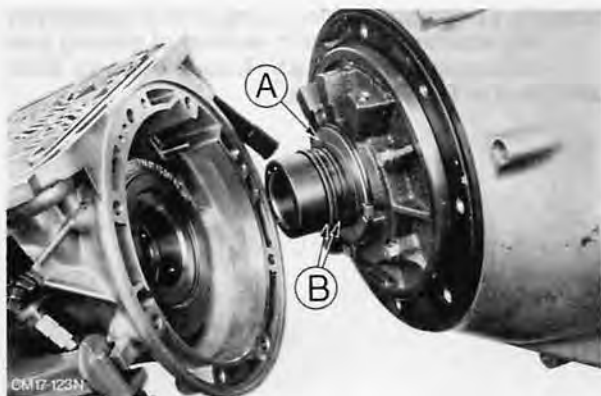

Fig. 122. Install converter casing
49. Stick thrust washer No. 1 to pump housing. Fit sealing ring on to converter housing and place a paper gasket on to transmission housing. Carefully mount converter housing complete with pump, without damaging pump piston rings, Fig. 122. Insert bolts, with new aluminium washers, and torque as specified (see Technical Data).